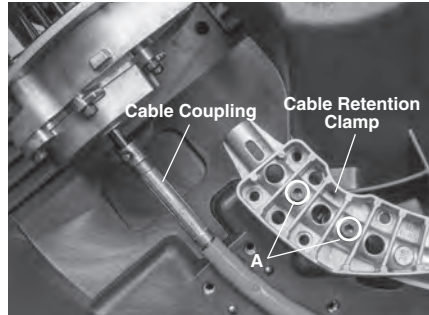
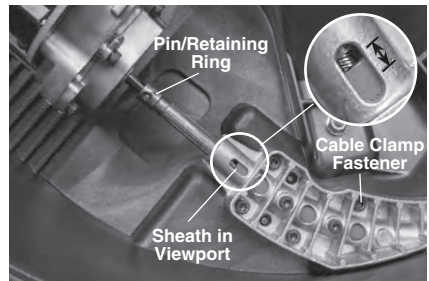

Figure 19 – Cable Installation
Figure 20 – Sheath Position In Viewport
3. Loosen sheath clamp screws (Figure 19 A) two turns, but do not remove.
4. Remove the cable retention clamp fasteners and retention clamp (Figure 19).
- Loosely install the 4 cable retention clamp fasteners (see Figure 19). Make sure that the cable sheath is within  $\frac{1}{4}$ " (6.4 mm) of the sheath coupling. When looking through the viewport, the end of the sheath must be between the lines (see Figure 20).